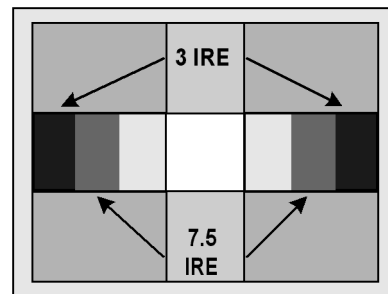

Figure 21. Sub-bright adjustment
2. Adjust B02 until the 7.5 IRE section looks same as 3.0 IRE section as seen in Fig. 21.